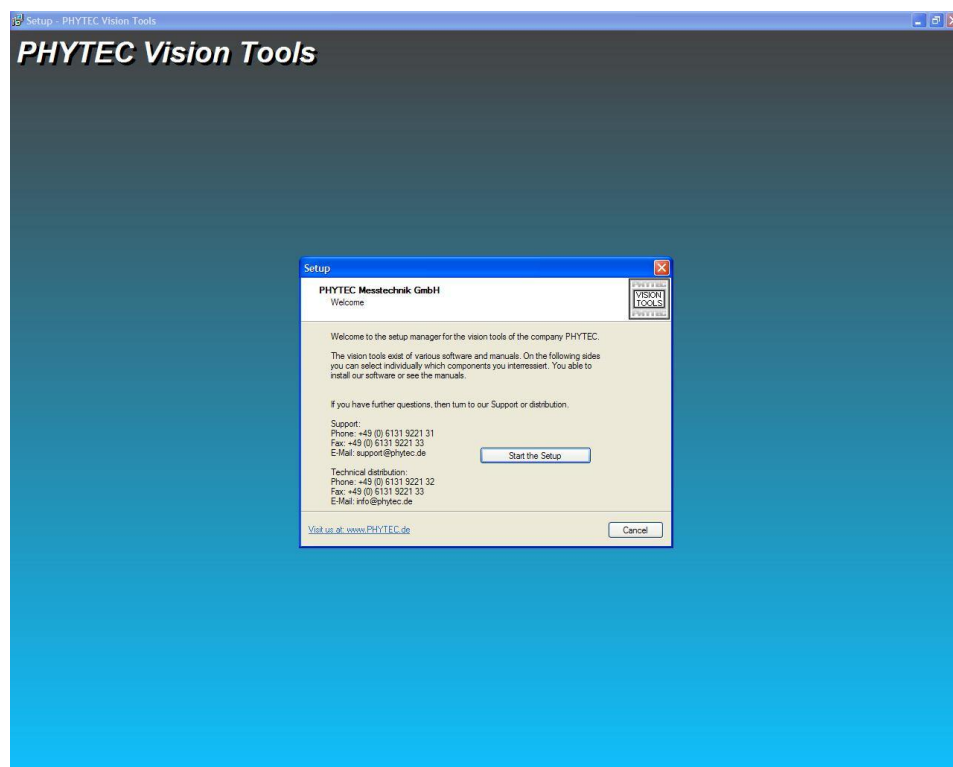

Figure 7: PHYTEC Install Menu
- Select the *PCI bus grabber* from the install menu that will appear (see Figure 7).